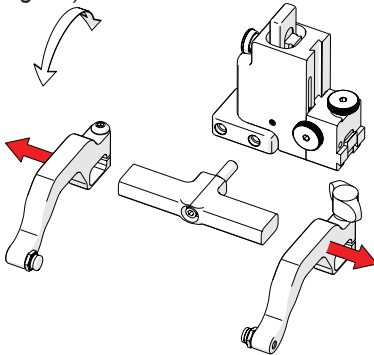

Fig. 36 - Remove probe holder arms
3. Loosen the arm clamp screw and the probe holder arm adjustment knob allowing removal of the probe holder arms (*Fig. 36*).